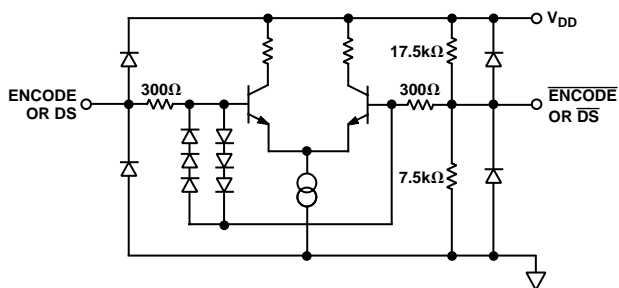

Figure 5. Equivalent ENCODE and Data Select Input Circuit
3tV and tPD are measured from the threshold crossing of the ENCODE input to valid TTL levels of the digital outputs. The output ac load during test is 5 pF (Refer to equivalent circuits Figures 5 and 6).
ENCODE and Data Select (DS) can be driven differentially or single-ended. For single-ended operation, the complement inputs ( $\overline{\text{ENCODE}}$ ,  $\overline{\text{DS}}$ ) are internally biased to  $V_{DD}/3$  (~1.5 V) by a high impedance on-chip resistor divider (Figure 5), but they may be externally driven to establish an alternate threshold if desired. A 0.1  $\mu\text{F}$  decoupling capacitor to ground is sufficient to maintain a threshold appropriate for TTL or CMOS logic.
Note the 6-diode clock input protection circuitry in Figure 5. This limits the differential input voltage to  $\sim \pm 2.1$  V. When the diodes turn on, current is limited by the 300  $\Omega$  series resistor. Exceeding 2.1 V across the differential inputs will have no impact on the performance of the converter, but be aware of the clock signal distortion that may be produced by the nonlinear impedance at the converter.